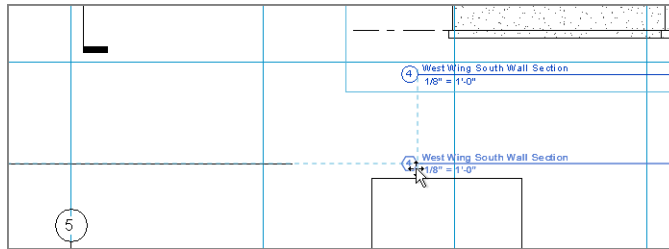

FIGURE 14.13: You can select the view title independently of the actual viewport.
4. Select the view title, as shown in Figure 14.13.
5. Move it down. As you move the view title, it snaps in alignment to the view title to the left (see Figure 14.13).